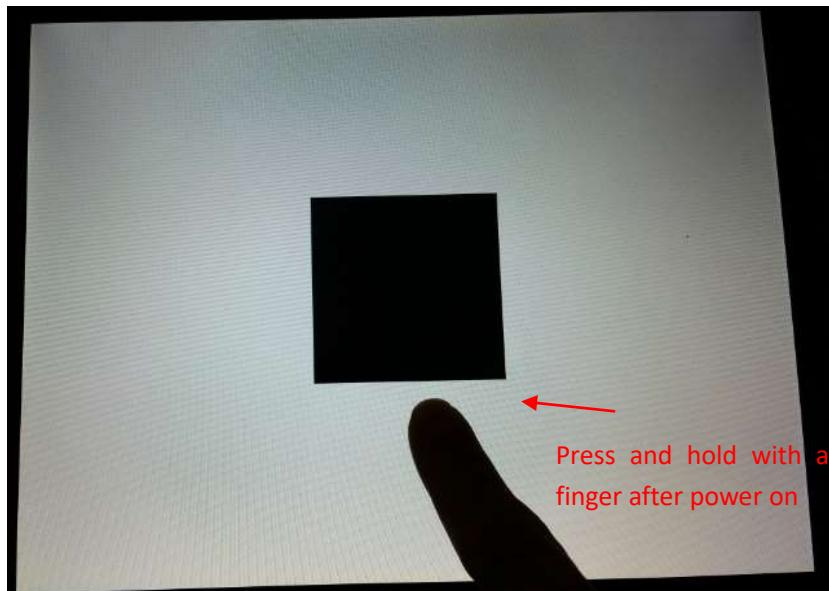

Fig. 29
②Insert the USB disk into the touch screen. When the touch screen is activated, press and hold at any point on the screen with a finger, as shown in Fig. 29.